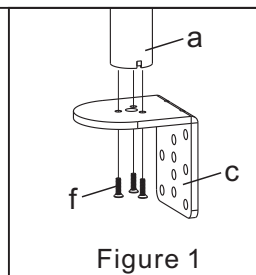

Figure 1
1. Install the "C"-Clamp Brace(c) to the Pole (a) using 3pcs M5x14 Bolts(f), and tighten using the Allen Key(o), see Figure 1.